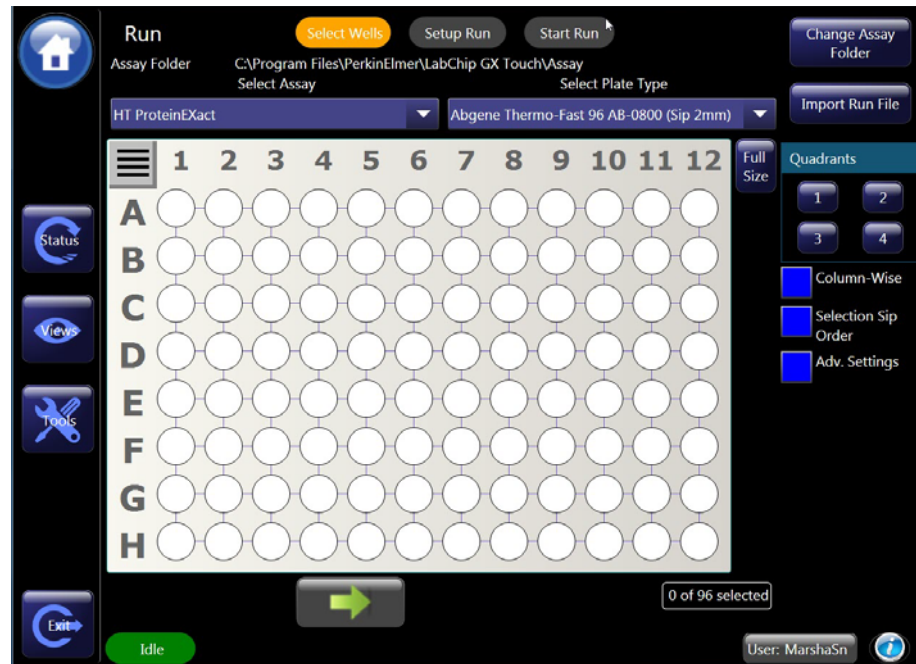

Figure 9. *Select Wells* Tab
- 3 On the *Select Wells* tab (Figure 9), select the appropriate plate type, well pattern, and whether to read wells in columns or rows. Select number of times each well is sampled under *Adv. Settings*. Touch the green arrow.